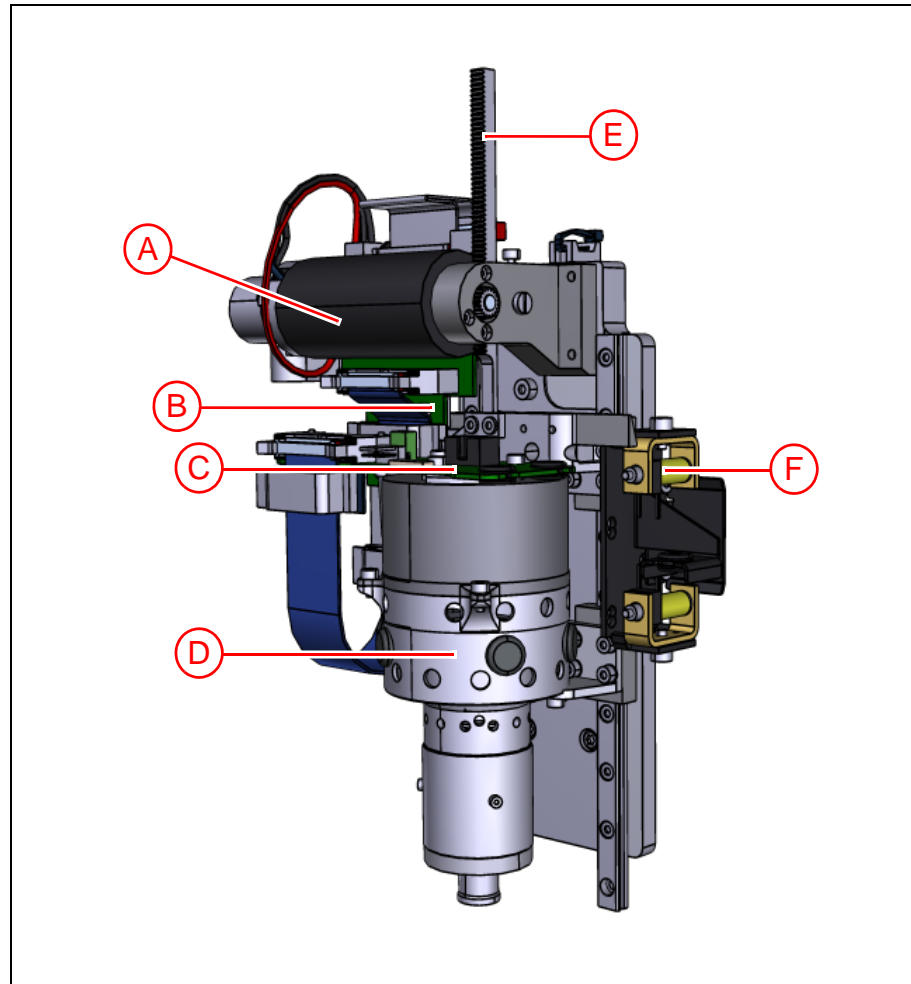

Figure 6-4. Midas unit.
- Midas Z motor ('A' in Figure 6-4).
The Midas consists of two main units, the Z unit and the Theta unit (See Figure 6-4), which are assembled together. These two units include all devices needed for the Z movement and the Theta movement respectively.